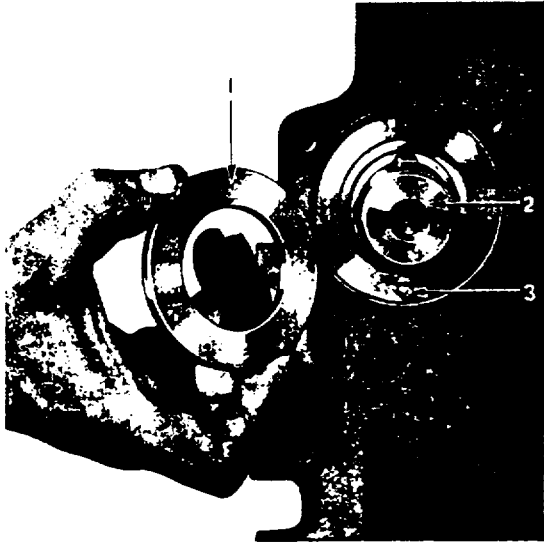

Fig. K.11.
6. Remove the camshaft thrust plate from its location on the front of the cylinder block (see Fig. K.11).